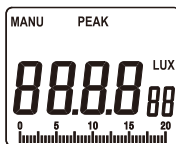

Figure 3-1-2B
- Hold the "REL/PEAK" key for one second and the device will enter the peak value measurement mode; "PEAK" will appear on the top right position of the LCD display and "MANU" will appear on the top left position of the LCD display (as shown in figure 3-1-2B);